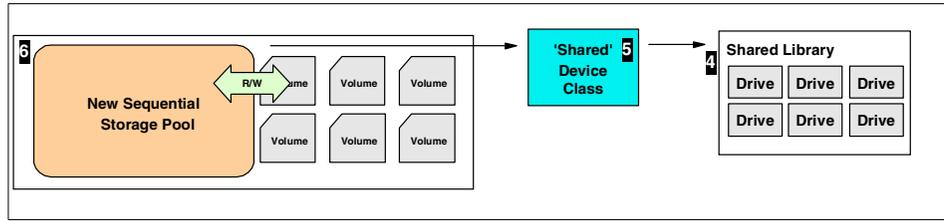

Figure 80. Defining new devices
3. After preparing your current storage pools and setting up the hardware, the next step will be to define the new devices, device classes, and storage pools (see Figure 80).
- a. Define the shared library and drives (4). If this migration is the first one, you should also define this server as library manager.
- b. Define a new device class, using the tape library defined in (5).
- c. Define one or more storage pools (6), using the device class defined in step 3b. You could use the same parameters as the ones used for the original sequential storage pools. If you will use private volumes for the storage pools, define them also.